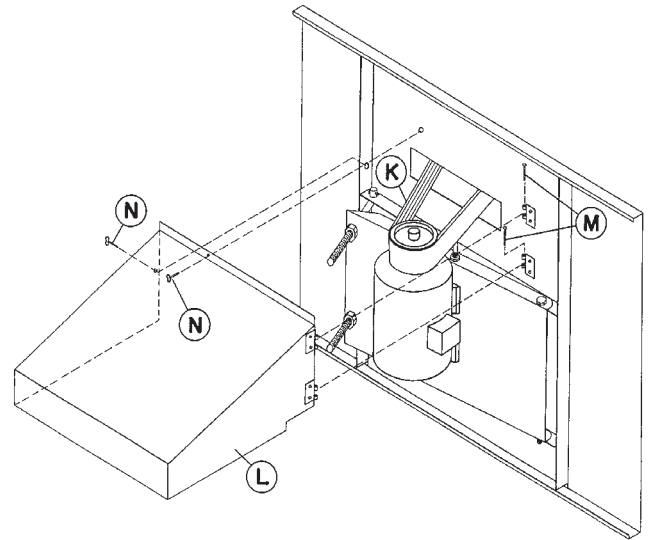

Figure 15 - Motor Guard and Powerband Belt Installation.
7. Install Powerband belt **K** (Figure 15) around fan sheave and motor sheave. Tighten belt by adjusting nuts on "J" bolts. Do not over tighten the belts. The center of the belt should deflect approximately 1/2" with moderate hand pressure.
9. To install Motor Guard **L**, match up hinges and install hinge pins **M**. See Figure 15.
10. Close Motor Guard and install (2) wing bolts **N**.